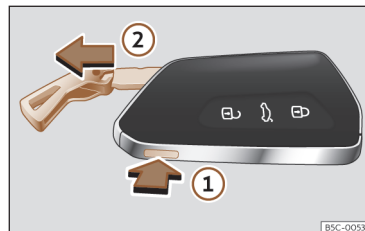

Fig. 69 Vehicle key: remove the key shaft.
- Press the >>> Fig. 69 ① button to release the ring from the key fob and remove the key blade ②. Pressing lightly on the ring leaves it fixed as a key fob.
- Press the >>> Fig. 69 ① button to unlock. Press and hold button ① and at the same time pull on the ring in the direction of arrow >>> Fig. 69 ② to completely remove the key shaft.